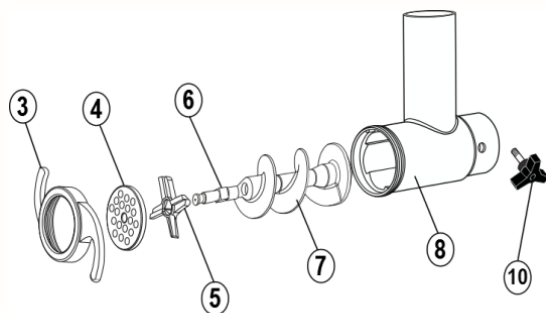

FIG. 1 SPREAD PARTS OF THE GRINDING UNIT
- 1.- Remove the ring (3) turning it counterclockwise and extract the plate (4), Knife (5) and worm (7) (see Fig 1).